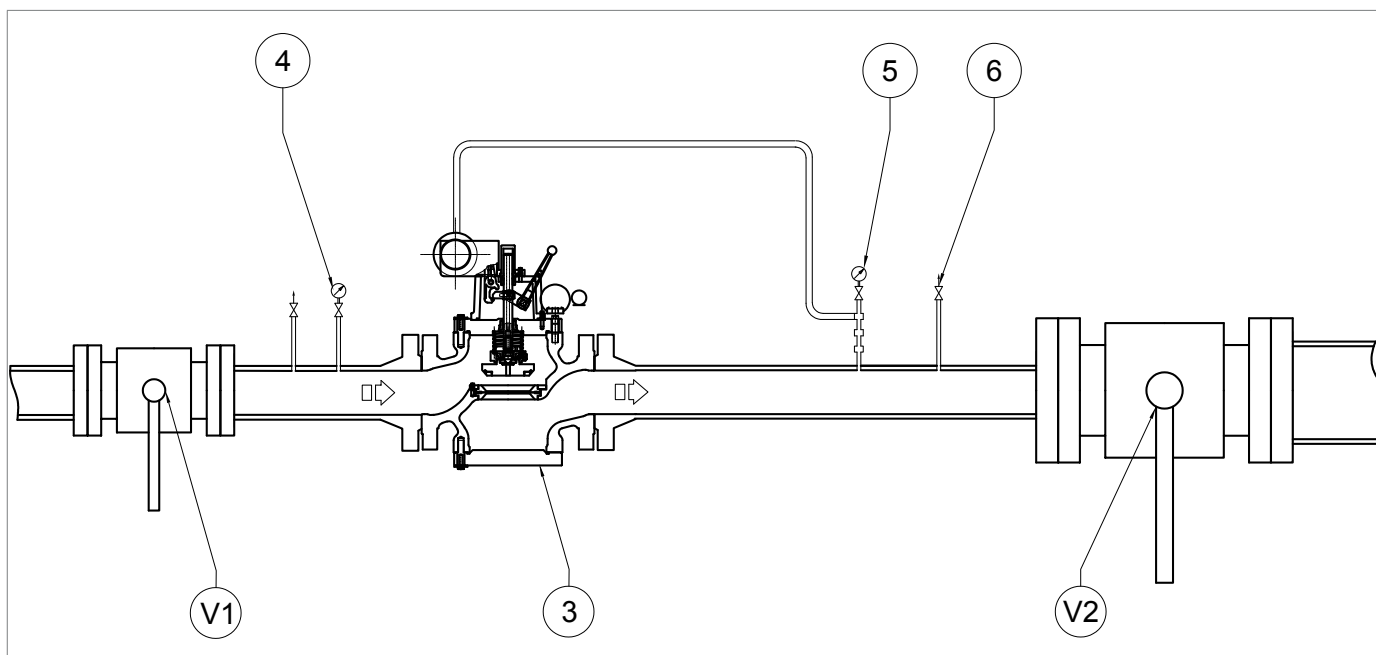

Fig. 8.11. Checking the tightness of the slam-shut valve SBC 782
1	Increase the downstream pressure (Dp) to check correct calibration: • of the line, using an external pressure source • of the pressure switch head, referring to “8.5.3 - Pressurising with external source”. ! NOTICE! Check the pressure referring to the downstream pressure gauge (Fig. 8.11, ref. 5). If the slam-shut valve: • trips before the expected pressure value: screw in (clockwise) the adjustment ring nut (13) so as to further compress the spring (11); • does not trip at the expected pressure value: unscrew (anti-clockwise) the adjustment ring nut (13) so as to relieve the spring (11).
2	Decrease the pressure in the pressure switch head using the drain cock (3) of the external source or the drain cock (Fig. 8.11, ref. 6)
1	Partially open the drain cock (Fig. 8.11, ref. 6) and keep it open for the next steps.
2	Decrease the downstream pressure to the minimum required slam-shut valve pressure.  NOTICE! Check the pressure referring to the downstream pressure gauge (Fig. 8.11, ref. 5). If the slam-shut valve: • trips before the expected pressure value: unscrew (anti-clockwise) the adjustment ring nut (15) so as to relieve the spring (17); • does not trip before the expected pressure value, screw in (clockwise) the adjustment ring nut (15) so as to further compress the spring (17).
3	Close the bleed cock (Fig. 8.11, ref. 6).
2	By opening the vent (Fig. 8.11, ref. 6), decrease the pressure in the downstream section to the calibration value of the main regulator.
3	Close the air vent valve (Fig. 8.11, ref. 6).
2	Decrease the downstream pressure to the minimum required slam-shut valve pressure.  NOTICE! Check the pressure referring to the downstream pressure gauge (Fig. 8.11, ref. 5). If the slam-shut valve: - trips before the expected pressure value: unscrew (anti-clockwise) the adjustment ring nut (15) so as to relieve the spring (17); - does not trip before the expected pressure value, screw in (clockwise) the adjustment ring nut (15) so as to further compress the spring (17).